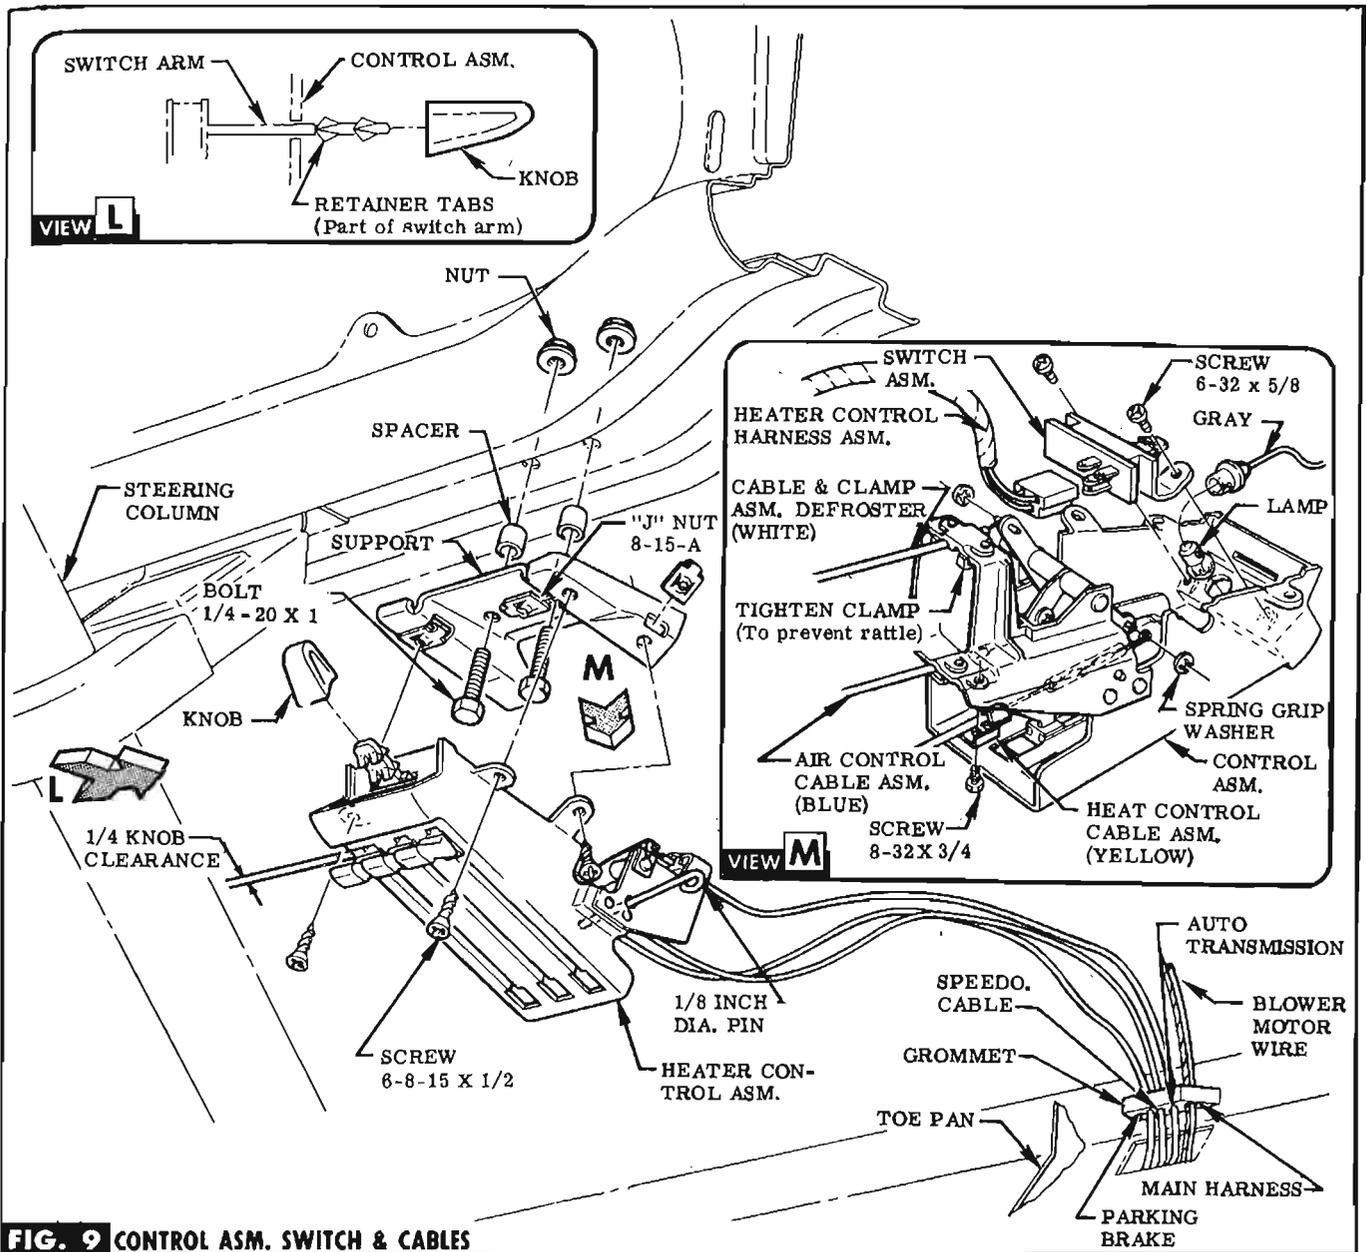

FIG. 9 CONTROL ASM. SWITCH & CABLES
STEP 47 RAISE ALL CONTROL LEVERS TO THE TOP OF THEIR SLOTS & INSERT 1/8 INCH DIA. PIN THRU HOLES IN CONTROL ASSEMBLY. SEE FIG. 9.
STEP 48 ATTACH HEAT & AIR CABLES TO CONTROL WITH SCREWS (IN BAG A). SECURE WIRE LOOPS OF CABLES TO RESPECTIVE CONTROL LEVERS WITH SPRING GRIP WASHERS (IN BAG A). SEE FIG. 9 & VIEW M.
SECURE WITH EXISTING RETAINER. REINSTALL MAIN HARNESS & BLOWER MOTOR WIRE, ETC. IN NEW GROMMET. SEE FIG. 9.
STEP 51 WITH SWITCH ARM IN "OFF" POSITION ASSEMBLE KNOB (IN BAG A) TO ARM WITH A STRAIGHT PUSH UNTIL KNOB LOCKS ON RETAINER TABS OF SWITCH ARM. A MAXIMUM FORCE OF 40 LBS. WILL ASSEMBLE KNOB IN PLACE. ALL RETAINER TABS MUST BE WITHIN THE CAVITY OF THE KNOB. SEE FIG. 9 & VIEW L. **CAUTION** Do not rock knob vertically during assembly, as this will bend switch arm.
STEP 52 INSTALL HEATER CONTROL SUPPORT TO INSTRUMENT PANEL WITH BOLTS, SPACERS & NUTS (IN BAG A). SEE FIG. 9.
STEP 54 SLIP J-NUT (IN BAG A) IN PLACE ON SUPPORT & INSTALL HEATER CONTROL TO SUPPORT WITH SCREWS (IN BAG A). SEE FIG. 9.
STEP 55 ROUTE DEFROSTER CABLE ALONG RIGHT SIDE RAIL THRU TOE PAN OPENING, GROMMET & TO HEATER CONTROL AS SHOWN IN FIG. 9 & 10. ALIGN TAPE OR PAINT MARKS ON THE CABLES DIRECTLY BELOW FLOOR TO TOE PANEL BREAK LINE BEFORE CLIPPING TO UNDERBODY. ROUTE ALL CABLES ALONG RIGHT SIDE RAIL & ATTACH
STEP 60 PULL ON HEAT & AIR CONDUIT TO REMOVE LASH & CAUSE CONTROL LEVERS TO SEAT AGAINST 1/8 INCH DIAMETER PIN. THIS WILL GIVE KNOBS 1/4 INCH CLEARANCE TO TOP OF SLOTS. HOLD IN POSITION & TIGHTEN CABLE CLAMP. SEE VIEW N & FIG. 9.
STEP 61 PUSH ON DEFROSTER CONDUIT UNTIL LEVER SEATS BACK AGAINST 1/8 INCH DIAMETER PIN. HOLD IN POSITION & TIGHTEN CABLE CLAMP. SEE FIG. 9 & VIEW M.
STEP 62 REMOVE 1/8 INCH DIA. PIN FROM HEATER CONTROL ASSEMBLY. SEE FIG. 9.